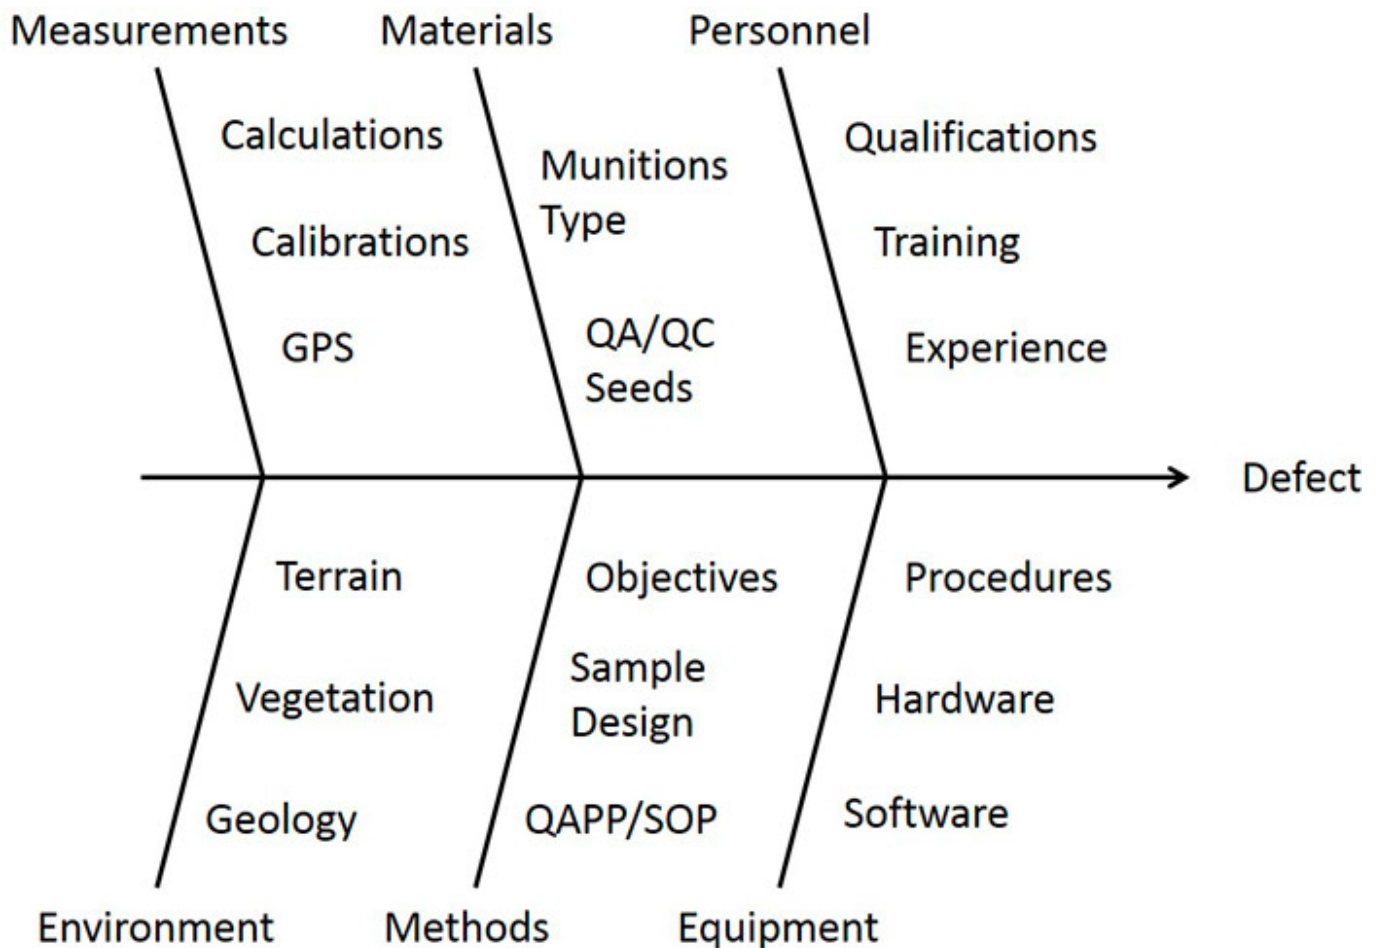

Figure 9-14. Example Ishikawa (fishbone) diagram
2. Ask why the problem happens and write the answer down below the problem. An Ishikawa Diagram (fishbone) is helpful in diagramming the 5 Whys process; see Figure 9-14. (*Geophysical sensor did not pass over the blind seed. Geophysical equipment was not functioning properly. Data were not processed correctly. Blind seed was buried incorrectly, for example, too deep or masked by another metallic object.*)